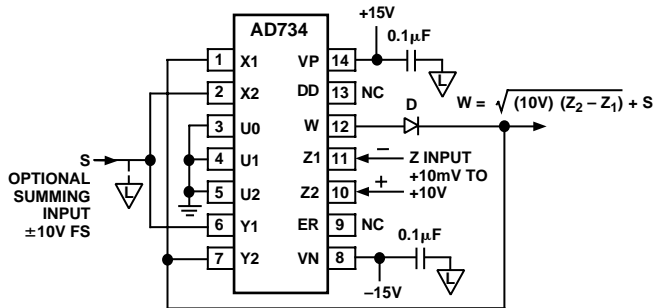

Figure 9. Connection for Square Rooting
In some cases, feedback may be connected to two of the available inputs. This is true for the square-rooting connections (Figure 9), where  $W$  is connected to both  $X_1$  and  $Y_2$ . Setting  $X_1 = W$  and  $Y_2 = W$  in Equation (2), and anticipating the possibility of again providing a summing input, so setting  $X_2 = S$  and  $Y_1 = S$ , we find, in shorthand form
The AD734 may be used to generate an output proportional to the square-root of an input using the connections shown in Figure 9. Feedback is now via both the X and Y inputs, and is always negative because of the reversed-polarity between these two inputs. The Z input must have the polarity shown, but because it is applied to a differential port, either polarity of input can be accepted with reversal of Z1 and Z2, if necessary. The diode D, which can be any small-signal type (1N4148 being suitable) is included to prevent a latching condition which could occur if the input momentarily was of the incorrect polarity of the input, the output will be always negative.